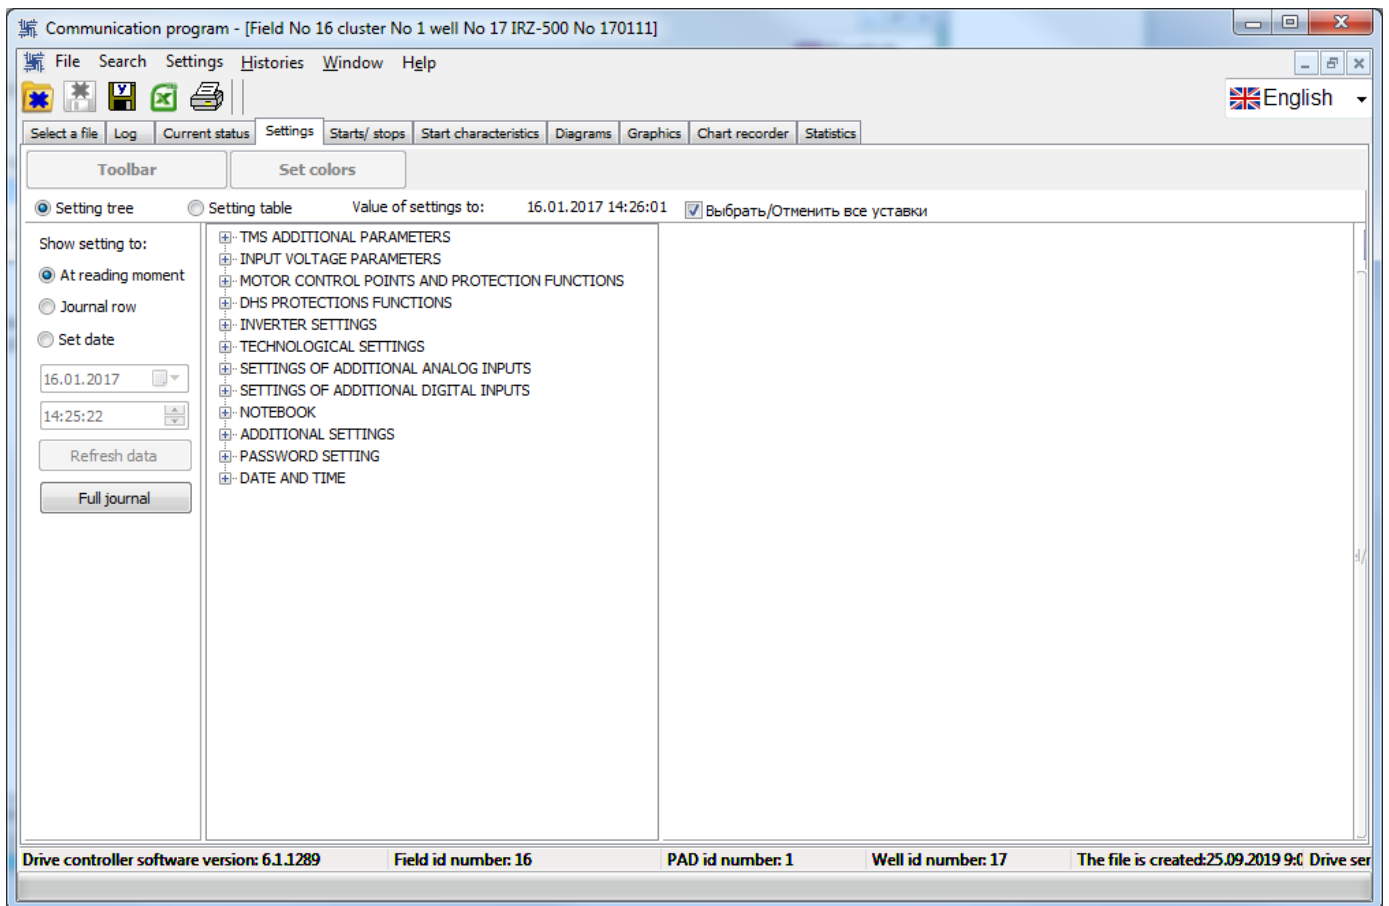

Fig. 20
- in the form of a tree duplicating structure of the drive settings menu (see Fig. 20),
All settings are grouped by sections for convenience (same as in "Controller menu"). The groups are as follows (see Fig. 20, 21):